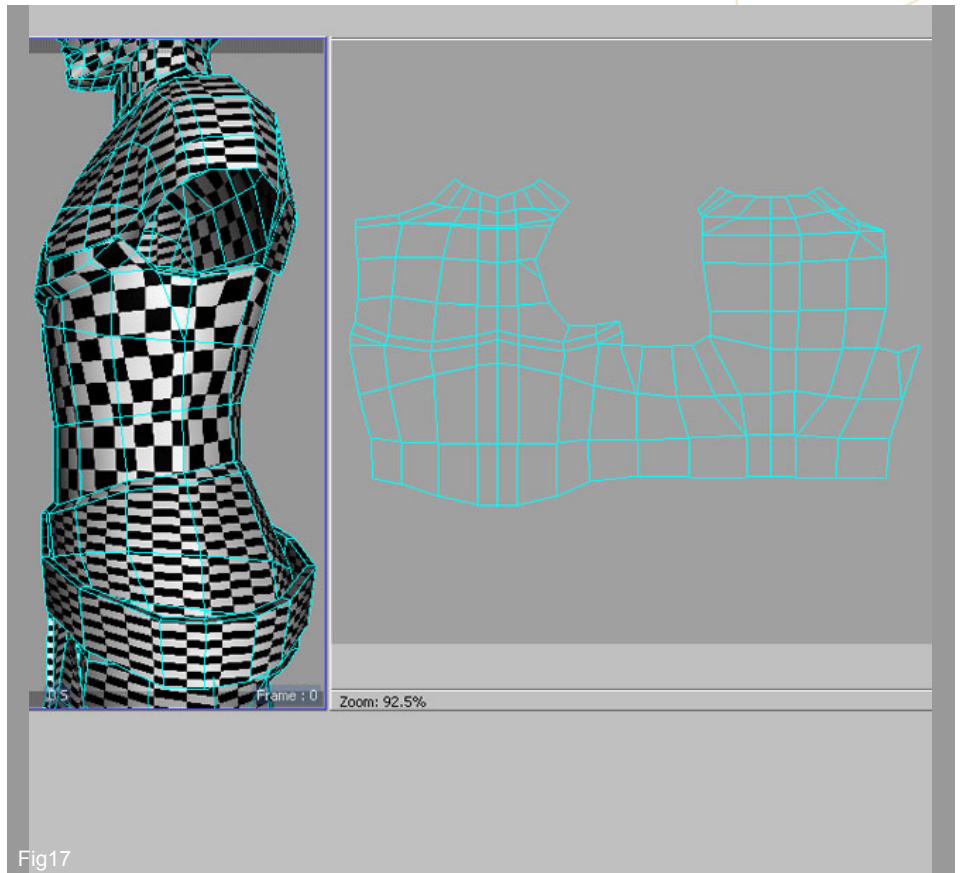

Fig17
17. In Fig17 you can see that the verts have now been welded and the section scaled to make it more consistent with the head. You will have to re adjust the verts in the Edit window once welded in order to reduce some of the distortion.